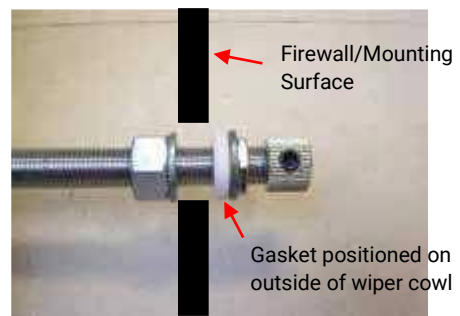

Figure 2
3. To mount the wiper shafts, drill a 3/8" hole for each location. Use masking tape to avoid scratching paint. Be sure the holes drilled into the wiper cowl are at a 90° angle to the windshield. Remove splined end with allen wrench and remove nut, washer and gasket. Insert wiper shaft into the hole and tighten nut, washer and gasket. Adjust to correct mounting depth. Shafts may also need to be shortened. Gasket must be on outside to avoid damage to paint and to seal from the elements of nature (figure 2).